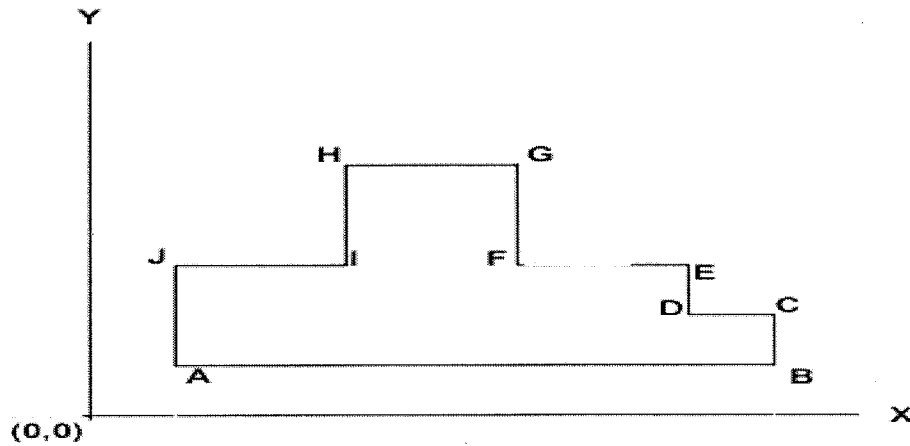

FIG.1
11. Write the programme in absolute system for the diagram given below for face milling operation with diameter of milling cutter tool as 100 mm, spindle speed 1000 rpm, feed is 10mm/min and depth of cut is 10mm. All the dimensions are in mm as mentioned in Fig 1.